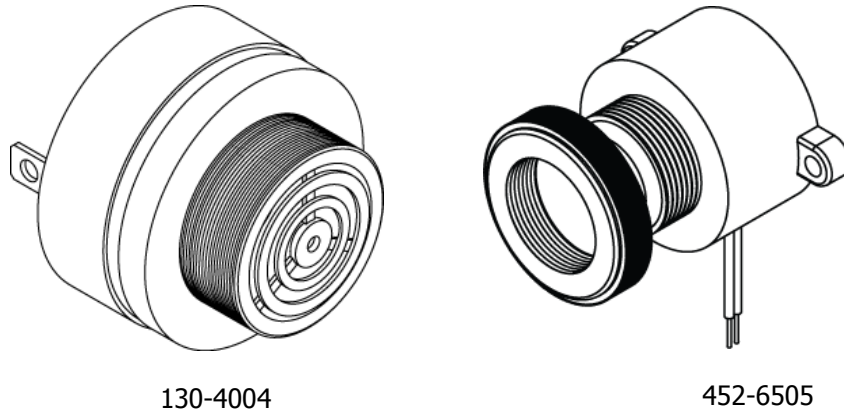

Figure 3 Buzzers
- 3) The buzzer provides an audible alert when the ELT is active (see Figure 3).